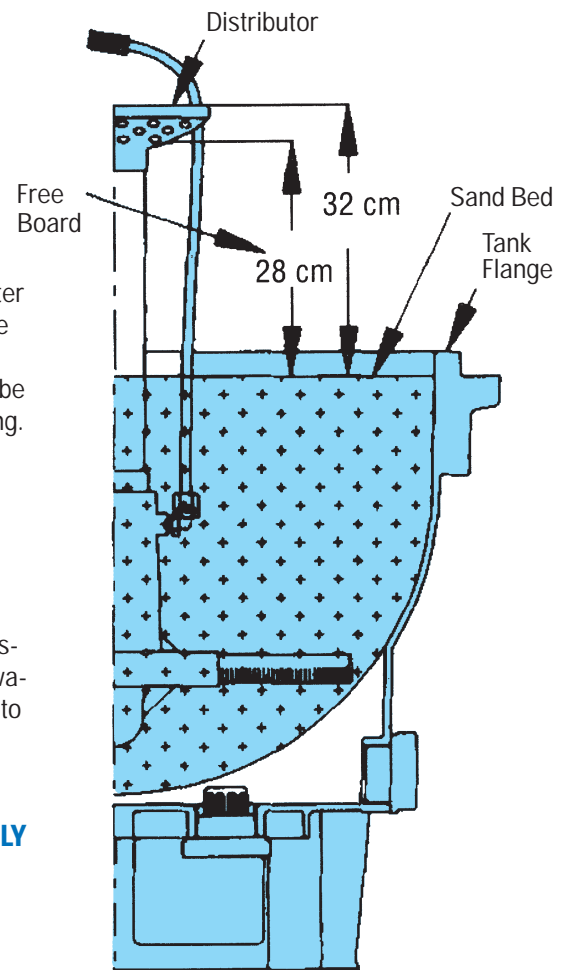

Fig. 2
4. when full, top of sand bed should be about 31,75 cm below top of distributor (about 1-1/2" (3,8 cm) below tank flange (see Figure 2).